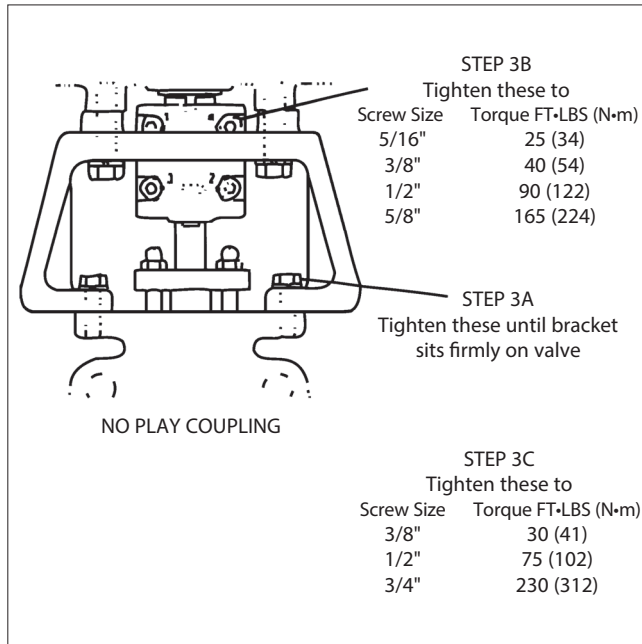

Figure 13.
- c. From **Figure 13**, the ballooned part number, part name and quantity required.